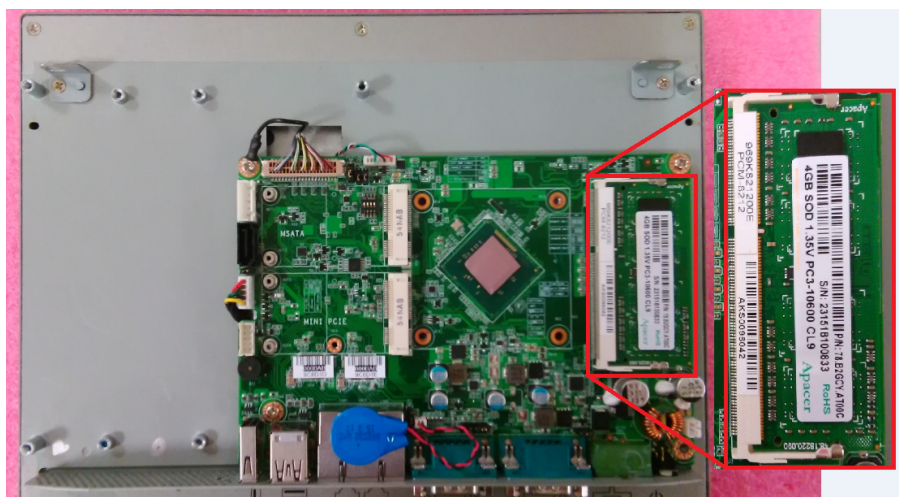

Figure 2.6 Install memory card
2. Insert the memory card into the slot as indicated in the red square below, and attach the thermal pad for the memory from the accessory box, then the installation of the memory card is finished. (See Figure 2.6 and 2.7)